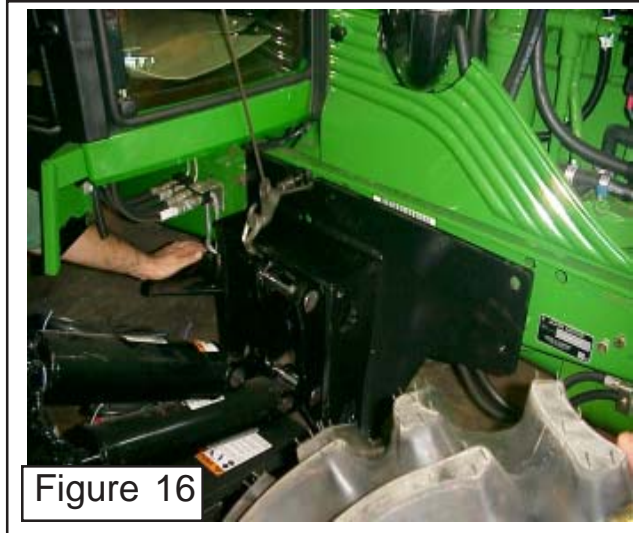

Figure 16
6. Install Mounting Arm & Bracket with Under Beam under Tractor . The mounting arm assembly will be slid under tractor (See Figure 13) while aligning the holes in the RH Mounting Bracket with the guide pin(s) that are installed into the tractor frame rail (See Figure 14) . Note it is best to use a cable to lift mounting bracket as it will allow you to slide the bracket closer to the tractor frame rail (See Figure 15). Supporting Mounting Arm Assembly with a floor Jack remove cable from frame bracket and reconnect a chain to frame bracket in the front cylinder pin access hole (See Figure 16). Install the mounting bolts into the mounting bracket and the tractor frame, remember some holes are pre threaded and some will need nuts installed behind tractor frame rails. These nuts can be installed from the top of frame rails for the top bolts and from the bottom on the bottom bolts. The bolts that are installed behind the under beam through mounting brackets and tractor frame rails can be made easier to install by putting a floor jack under the under beam and jacking it up but DO NOT jack it up so high it hits fuel tank (See Figure 18).